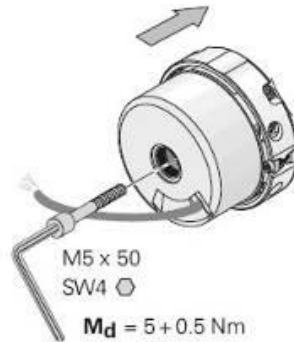

Figure 22: Attach the encoder
3. Install the encoder to the encoder shaft. Use the bolt M5 to attach the encoder to the encoder shaft with hex wrench 4mm. Use torque wrench to tighten the bolt to 44 in-lbs. (5Nm). See Figure 22.